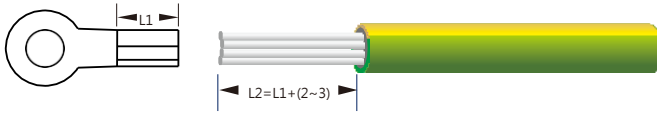

Figure 5.1 Stripped length (unit: mm)
- Step 1 : Strip an appropriate length of the insulation from the PGND cable using a wire stripper; the length is a little bit longer than that of ring terminal's crimping end by 2mm~3mm, as shown in Figure 5.1